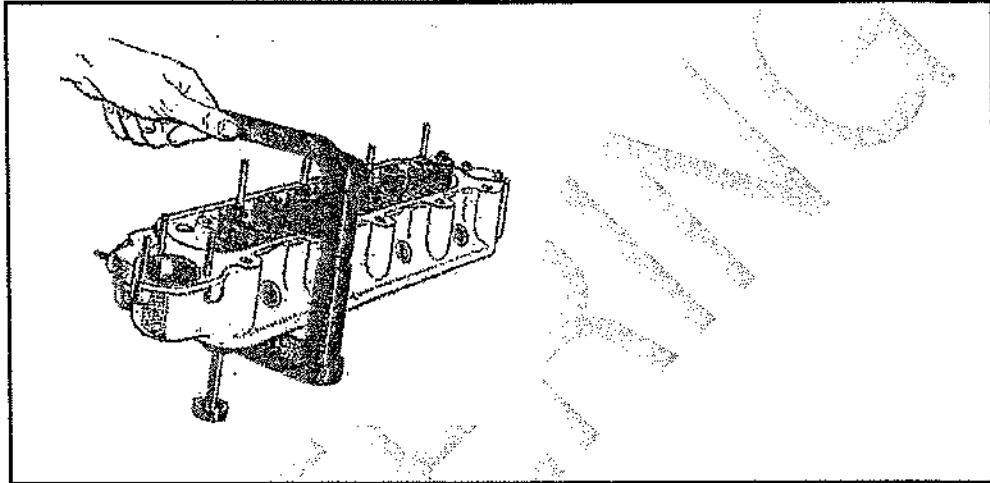

FIGURE 5
5.5 FIGURE 5 below shows various tools used in the workshop.